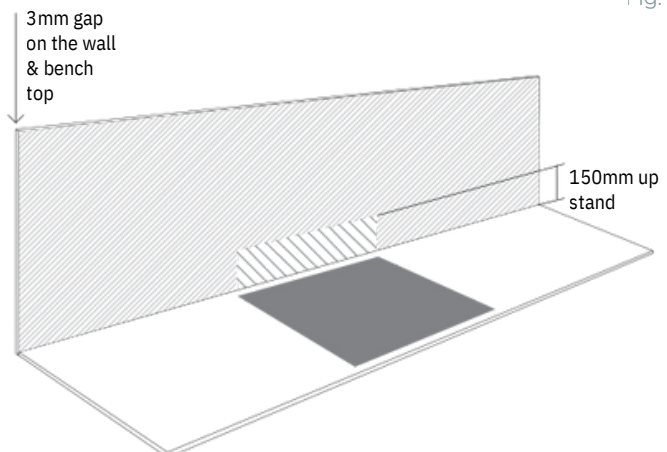

Fig. 3
**Gas Cooktops** *Figure 3* Akril must be used behind gas cooktops in conjunction with a non combustible materials such as glass, tiles or stainless steel.